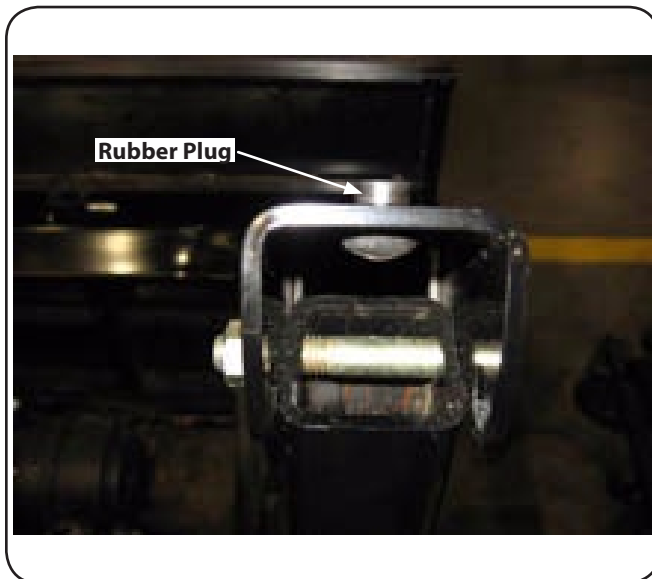

Figure 3-4
7. Insert rubber plugs into each side of the upper ROPS. See Fig. 3-4.